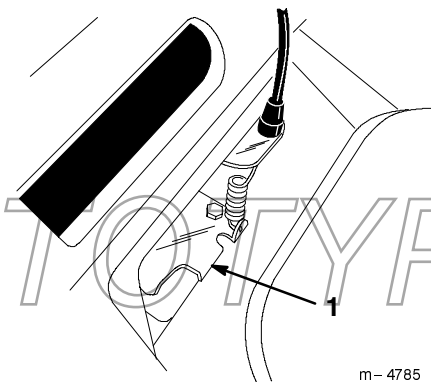

Figure 30
4. Push the belt guide tab down until it contacts the lawn mower, then hold it in place (Fig. 30).